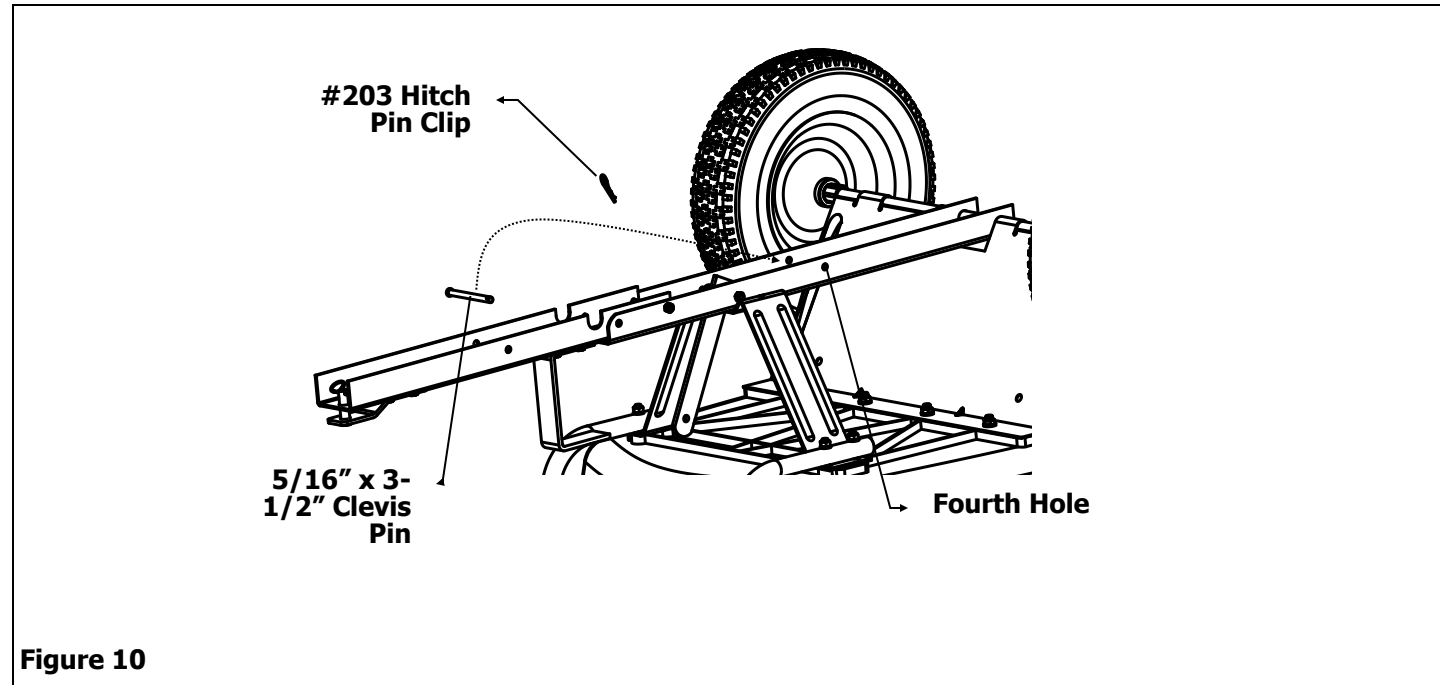

Figure 10
11. To convert your Trailer from Pull unit to a push unit, remove the #203 Hitch Pin Clip from the side of Tow Bar. Remove the 5/16" x 3-1/2" Clevis Pin, turn the Short Tow Bar around until it rests inside of the Long Tow Bar, insert the Clevis Pin into the fourth hole from the front of the Long Tow Bar and secure with the Hitch Pin Clip. See Figure 10.
11. Slide Axle through Undercarriage and Tow Bar. Center Axle, place one 3/4" Flat Washer, one 1" x 1" Spacer onto the Axle followed by Wheel, place another 3/4" Flat Washer onto the Axle and secure with a 1/8" x 1-1/4" Cotter Pin. Repeat process on other side. See Figure 10.